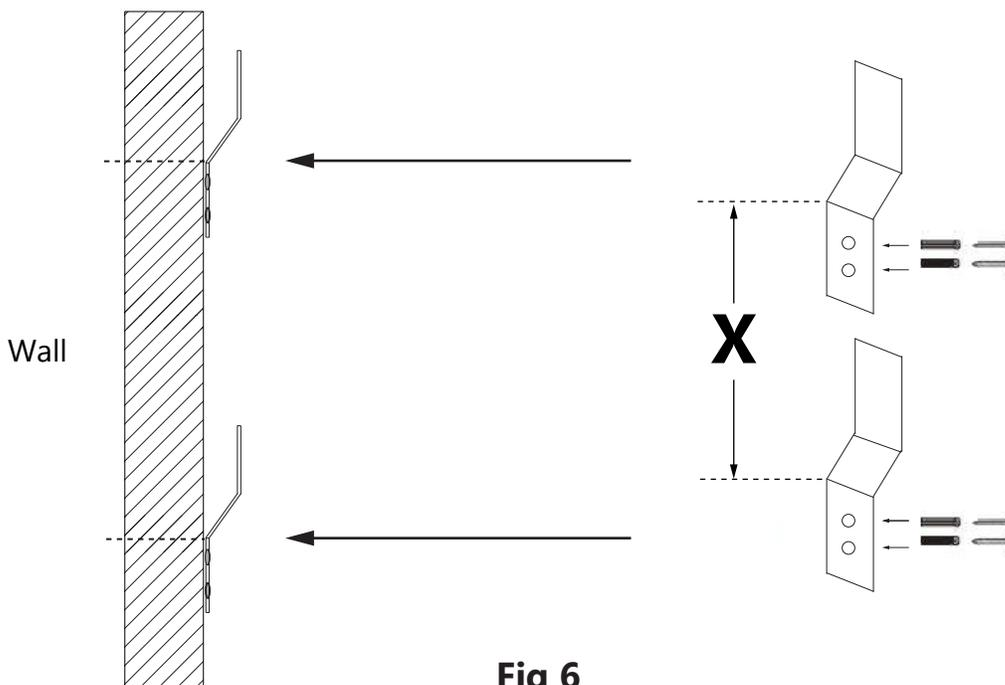

Fig 6
6. Place the **Support Brackets (#02)** just below the lines you just made on the wall, with the bend of the brackets lying on the marks as shown. Mark the screw holes. Drill the holes using a $\text{Ø } 5/16''$ drill bit. Insert the wall anchors and use the included screws to attach the **Support Brackets (#02)** to the wall. (**Fig 6**)